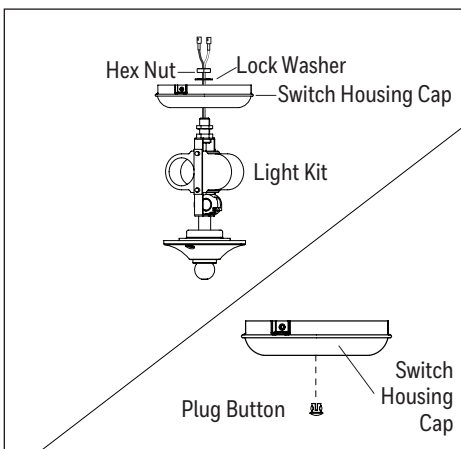

Figure 6.1
1. Remove the preassembled hex nut and lock washer from inside the switch housing cap. Then remove the light kit from the switch housing cap. Install the plug button (Figure 6.1).